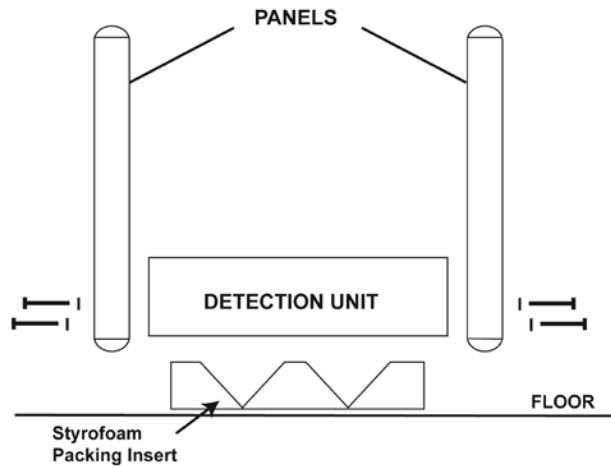

Figure 2-2
3. Place the packing insert on floor as shown in Figure 2-2. Lay detection unit (with touchpad panel facing down) on packing insert. Connect detection unit to panels A and B using four screws and finishing washers. Do not tighten!